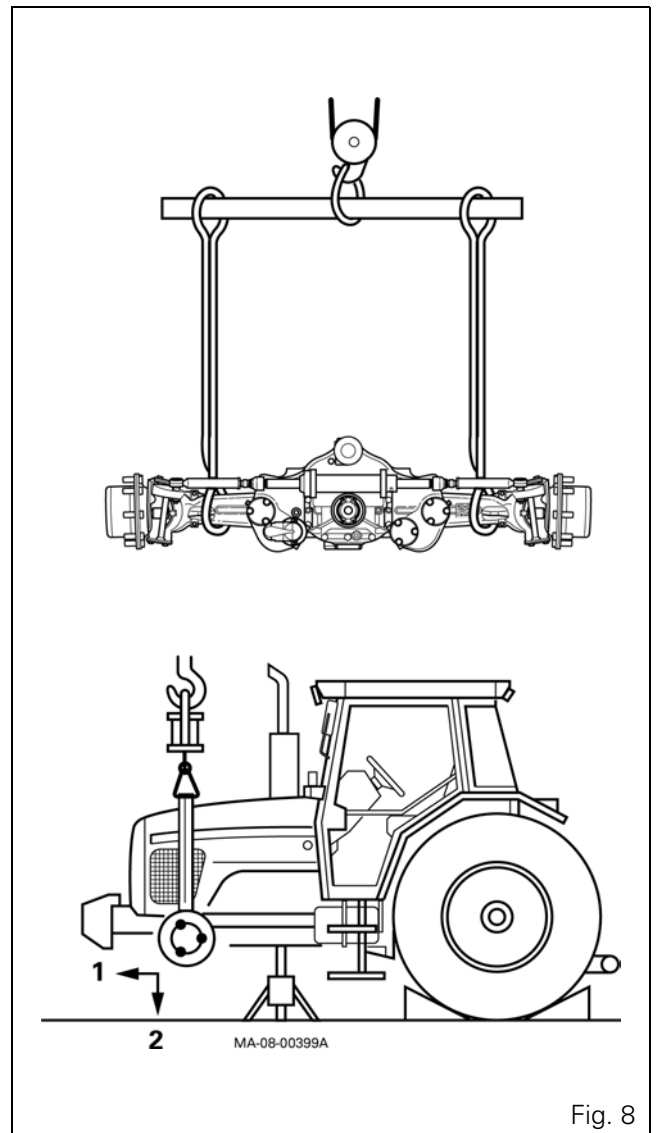

Fig. 8
**24.** Remove the 45kg front weights (if fitted). Immobilise the tractor. Apply the handbrake. Place safety chocks on either side of the rear wheels as shown in Fig. 8.
36. Sling the front axle using suitable straps (Fig. 8).
38. Pull the front axle assembly complete with bearing support (2) forwards along the axis of the axle beam (Fig. 8) (position 1) and remove the front axle (position 2).
39. Note the features, order and position of washers (7) and chamfers, and remove them (Fig. 8).
41. Slide the washers (7) slightly smeared with bearing grease onto the front and rear ends of the pivot pin, the chamfer turned towards the front axle.
42. Sling the front axle (Fig. 8). Moderately grease the ends of the pivot pin and mount the support (2) at the front of the pivot pin (Fig. 2)..